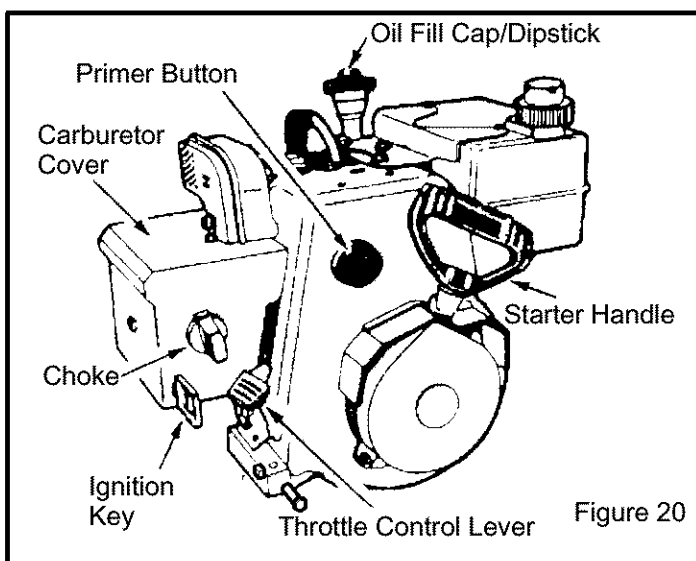
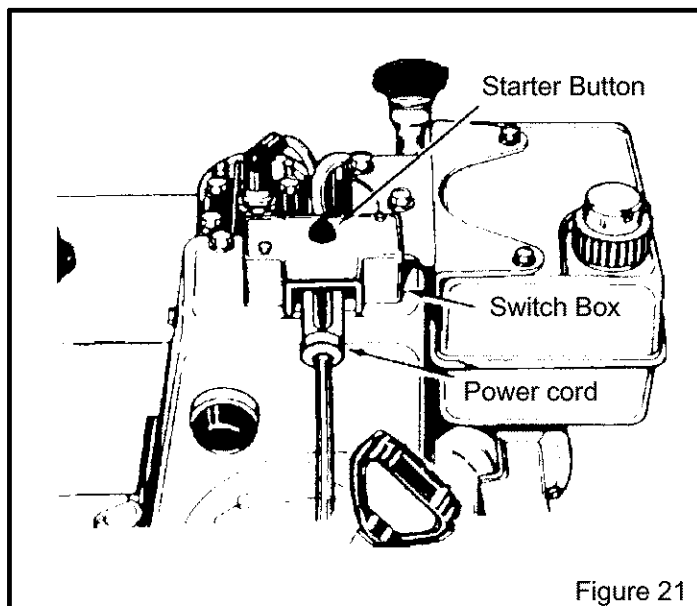

Figure 20
Figure 21
## COLD ENGINE START (ELECTRIC STARTER) (SEE FIGURE 20 AND FIGURE 21)
3. Insert key into ignition slot. Make sure it snaps into place (Figure 20). Do not turn key.
5. Connect POWER CORD to SWITCH BOX (Figure 21).
- a. Push STARTER BUTTON (Figure 21) to engage starter motor and crank engine.
5. Connect the POWER CORD to the SWITCH BOX (Figure 21).